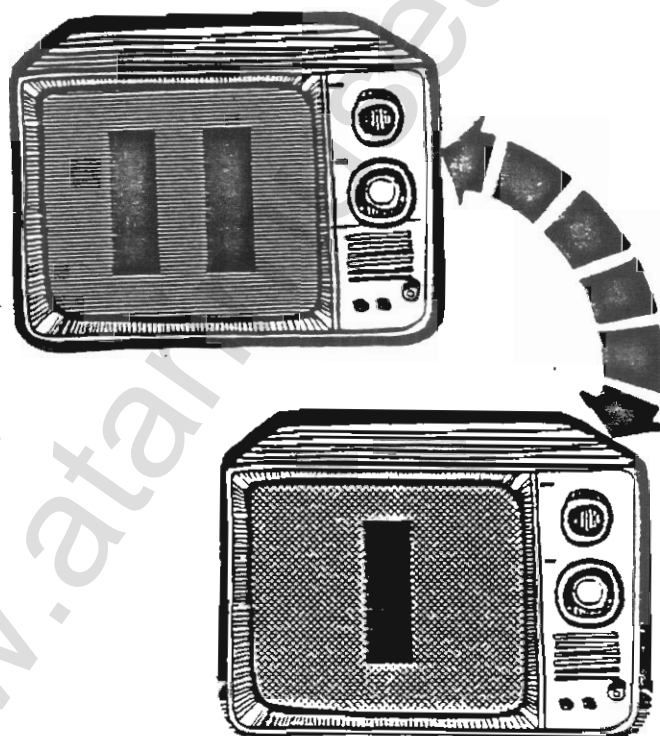

Figure 3-8. Audio Tone Screen
- **Format:** Short the right difficulty switches. This test displays two alternating patterns on the screen (See Figure 3-8) while two alternating tones are heard. The tones change in sync with the screen. This test continues for one full cycle after the switch returned to the initial position.